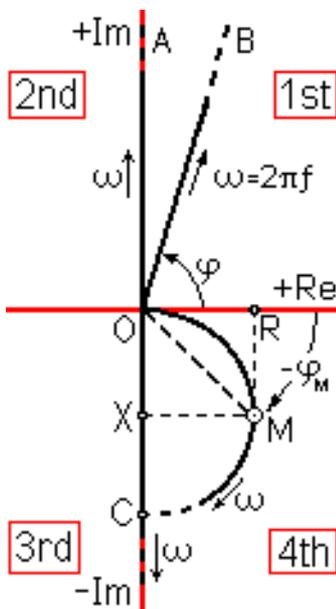

FIG 1. Transfer impedances of conductivity and permeability in complex plane
- [4] Haslett et al. Patent US 3,159,784 - look at sheet 1, fig. 1
FIG. 1 shows in complex plane frequency responses of 4 type targets having only ferromagnetism or only conductivity.